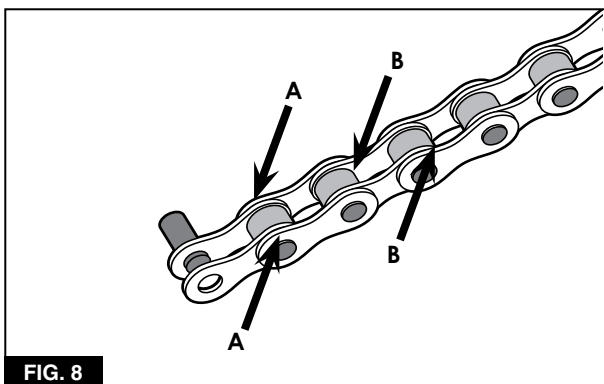

FIG. 8
1. Oil the contact areas between the inner and outer side plates on each link (A, **Figure 8**), and oil the contact areas between the inner side plates and each end of the rollers (B, **Figure 8**).